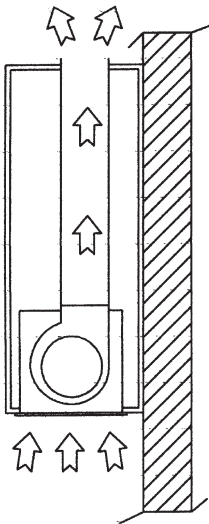

Fig.1.
- › In Recirculation mode (Fig.1), the air and fumes conveyed by the appliance are cleaned both by a grease filter and by an active charcoal filter, and put again into circulation through the top of the hood.